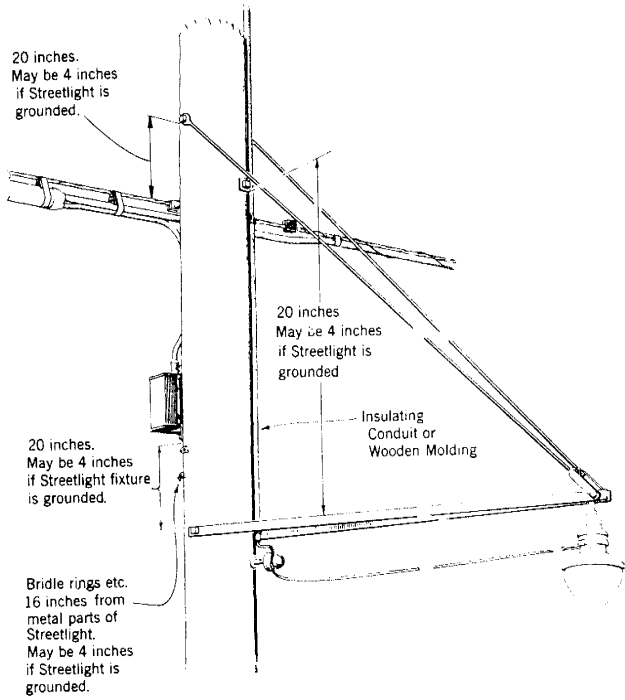

Fig. 3
2.05 Drivehooks, bridlewire rings and brackets shall have a clearance of at least 16 inches from streetlight fixtures or span wires which *are not grounded*, and at least 4 inches from fixtures and span wires which *are grounded* (See Fig. 3).